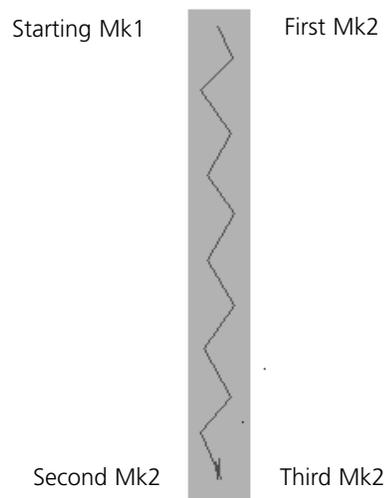

Figure 5-20
4. In this letter **I**, for simple straight column stitching, you define the beginning of the column with a Mk1 on the left side of the column at the top (see Figure 5-20).
5. Next click the Mk2 push button in the toolbar and enter a Mk2 at the beginning of the right side of the column at the top. (see Figure 5-20).
6. Now move to the bottom left of the letter to the end of the first line of the column and enter another Mk2 (see Figure 5-20).
bottom right of the letter) and enter a third Mk2 (see Figure 5-20).